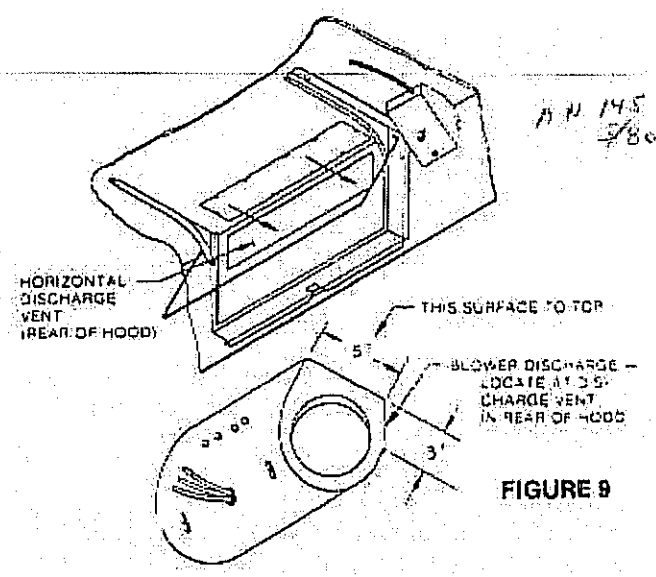

FIGURE 9
1. From the blower position shown in Figure 9, lift the blower assembly vertically into position.